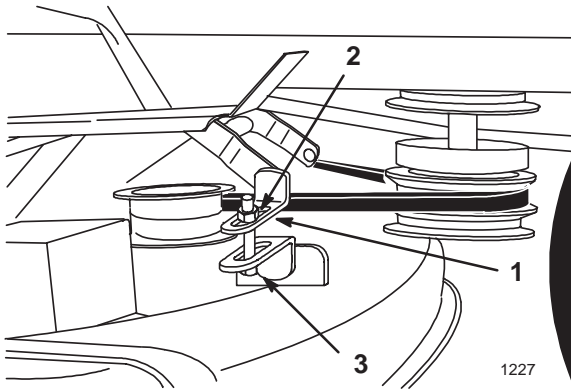

Figure 12
6. To adjust front-to rear blade level loosen jam nut on front adjustable link. (Fig. 12).
7. Rotate the bolt on front adjustable link to change front-to rear blade level (Fig. 12).